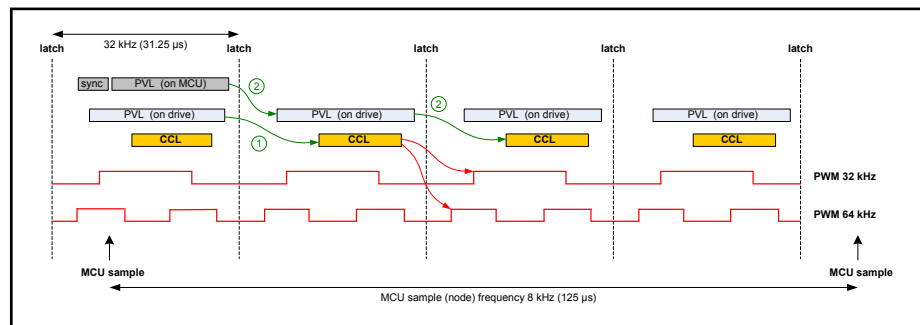

Fig. 13-5: Timing relation of PVL sample, CCL sample and PWM signal
If a drive module includes a Current Control Loop (CCL), PVL results, for example Controller Out, are input data for the CCL. The CCL is executed concurrently with the PVL on the drive module. This implies that information for the CCL is one CCL sample delayed if the PVL runs on the drive module, see fig. 13-5 "Timing relation of PVL sample, CCL sample and PWM signal" on page 166 ①.
If the PVL runs on the MCU, the information for the CCL is two PVL samples delayed, because the PVL result (on the MCU) must be communicated to the PVL on the drive module and the PVL on the drive module subsequently must send the data to the CCL, see fig. 13-5 "Timing relation of PVL sample, CCL sample and PWM signal" on page 166 ②.
Likewise, the update of the PWM output is concurrently executed with the CCL. The update of the PWM may be delayed one CCL sample depending on the PWM frequency, see fig. 13-5 "Timing relation of PVL sample, CCL sample and PWM signal" on page 166. The figure also shows that the CCL result on the PWM signal will be effective earlier if the PWM frequency is set higher.